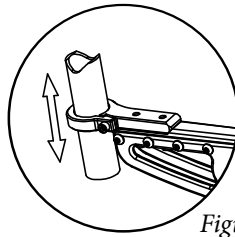

Figure 1.4
9. Determine necessary pipe position to clear any obstacles that may prevent perpendicular drilling of the surface to be drilled. Use the 3/16" Hex wrench included. In most cases no adjustment is necessary. (See Figure 1.4)